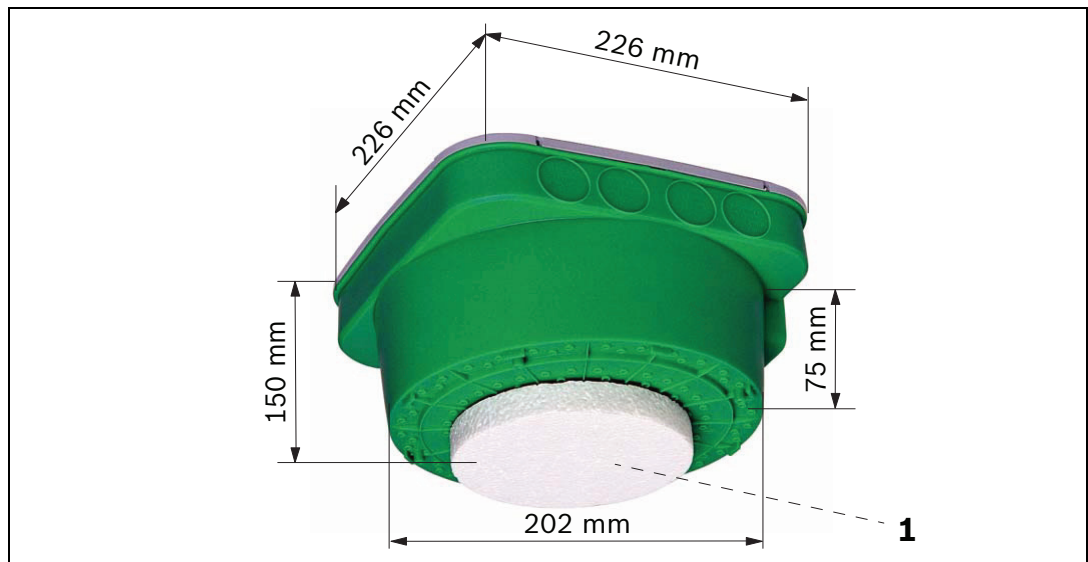

Figure 3.11 FAA-500-CB built-in housing
Pipe or cable inlets at the FAA-500-CB Built-in Housing within the wall areas are made with an universal cutting tool. After removing the form-boards, the front part (see *Figure 3.11 (1)*) is opened with a fret-saw or hole saw.